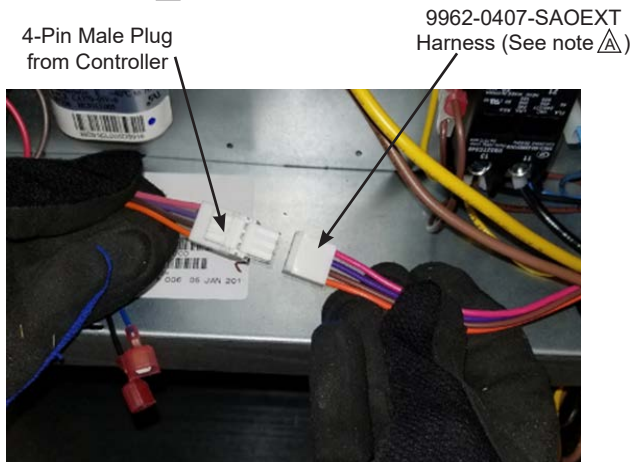

Figure 13 – Connect 9962-0407-SAOEXT Harness to Harness from Controller (See note)
Step 17: Locate the 9962-0407-SAOEXT harness (with 4-pin female plug) provided in the economizer hardware kit. Connect the 9962-0407-SAOEXT harness to the 4-wire harness with a male plug from the Jade controller harness. See Figures 13 and 23. Important - See note below.